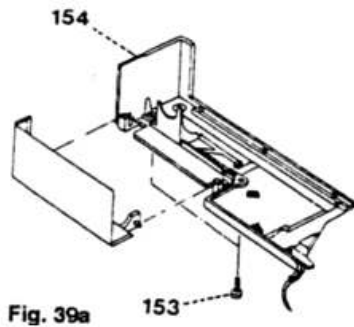

Fig. 39a
- Unscrew both screws 153 of bobbin thread monitor 154 (fig. 39a).
- Insert the bobbin thread monitor 154 and secure it with screws 153 (fig. 39a).